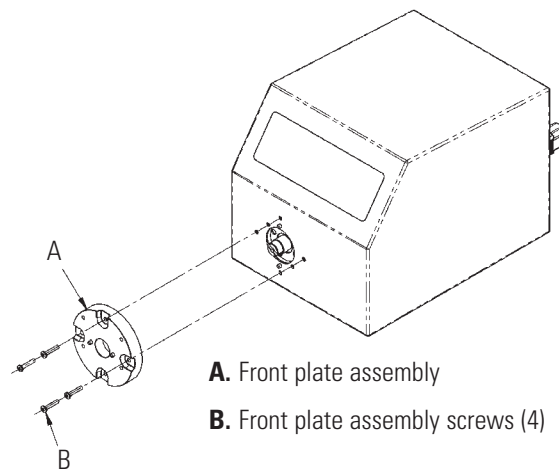

Figure 4-3. Shaft Seal Inspection
2. Remove the four (4) screws (see Figure 4-3, Item B) that hold the front plate assembly (see Figure 4-3, Item A) to the drive, and pull the front plate assembly off the drive. #8-32 screws may be installed in the pump-mounting holes to provide handles for pulling the plate assembly off. Retain Item B screws for Step 8. **DO NOT** substitute screws.
8. Slide the front plate assembly back over the shaft and onto the locating pins, in the orientation desired. (4 configurations, each 90 degrees of rotation apart, are possible). Reinstall the four (4) screws, removed in step 2 (see Figure 4-3).